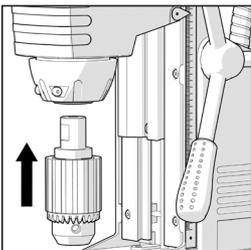

Fig. 11
- Align the two (2) 'flats' machined on the chuck adaptor with the grub screws in the spindle. (**Fig. 11**)